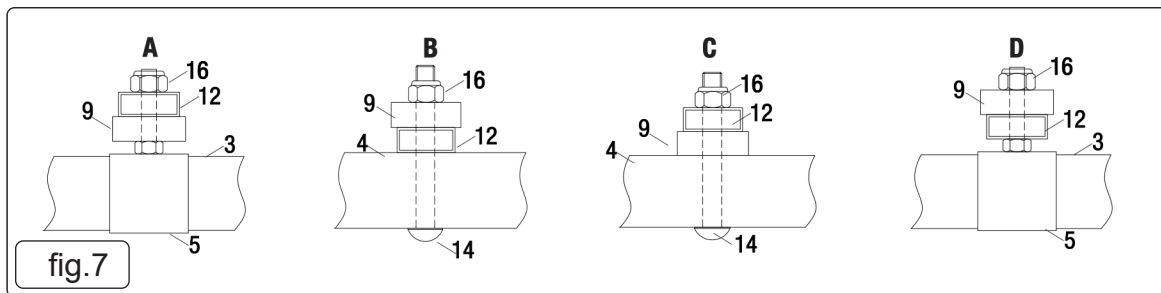

fig.7
- 5.7.2. Please refer to attached diagram of fig. 7, A, B, C, D. Make sure Axle Tube (fig.6.9) is in the right place, either below part 12, or above part 12 to make sure the components are spaced evenly.